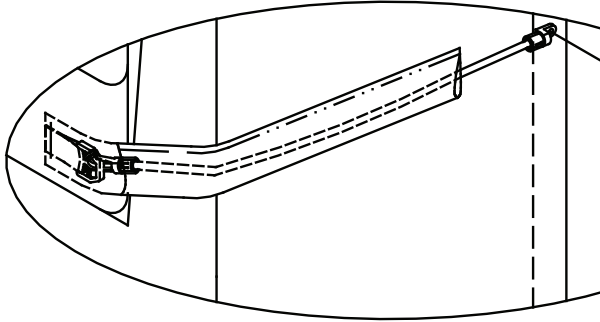

FIGURE 1
3. Using the velcro on the curtain face and velcro on the front bar, temporarily hang the curtain face from the canopy top cover. Make sure curtain face top edge is aligned with the front bar. There will be slight variations in the velcro location on the front bar, so make sure you align the two edges and not the velcro(s). Also, make sure that the curtain face is underneath the canopy top cover front flap and that it is centered on the mark made in the previous step. (See Figure 1) (Go to 5162-0004 for gutter installation instructions)